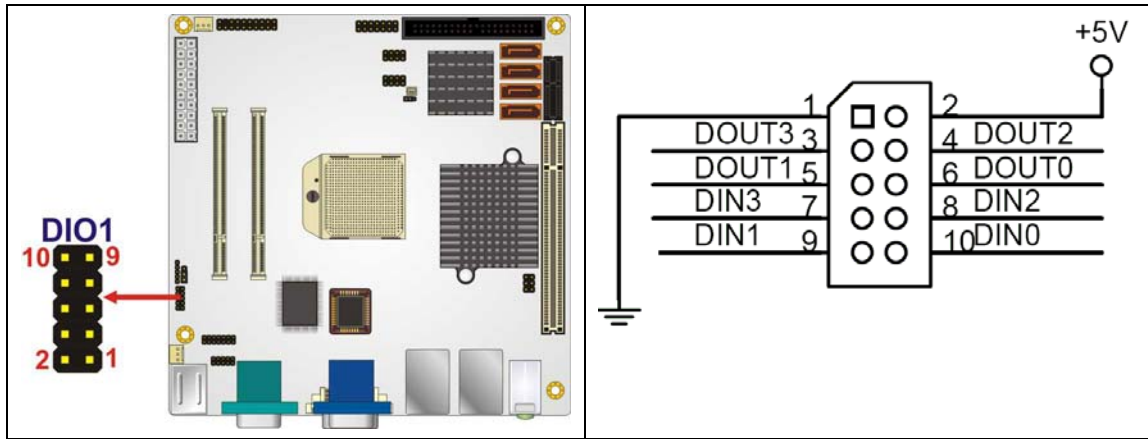

Figure 4-3: DIO Connector Connector Locations
- CN Location:** See Figure 4-3